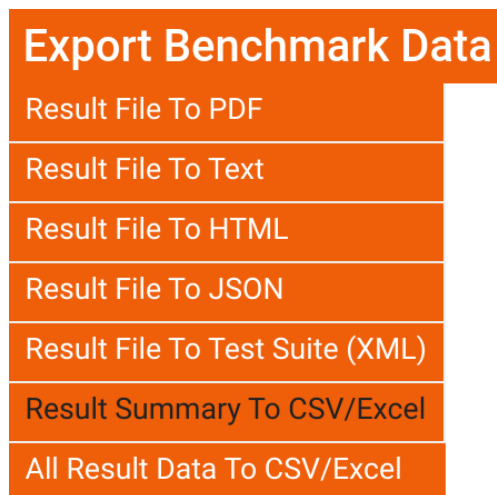

Figure 10.7: Export Data Menu
- Click “Result Summary to CSV/Excel” in the “Export Benchmark Data” menu, see Figure 10.7.